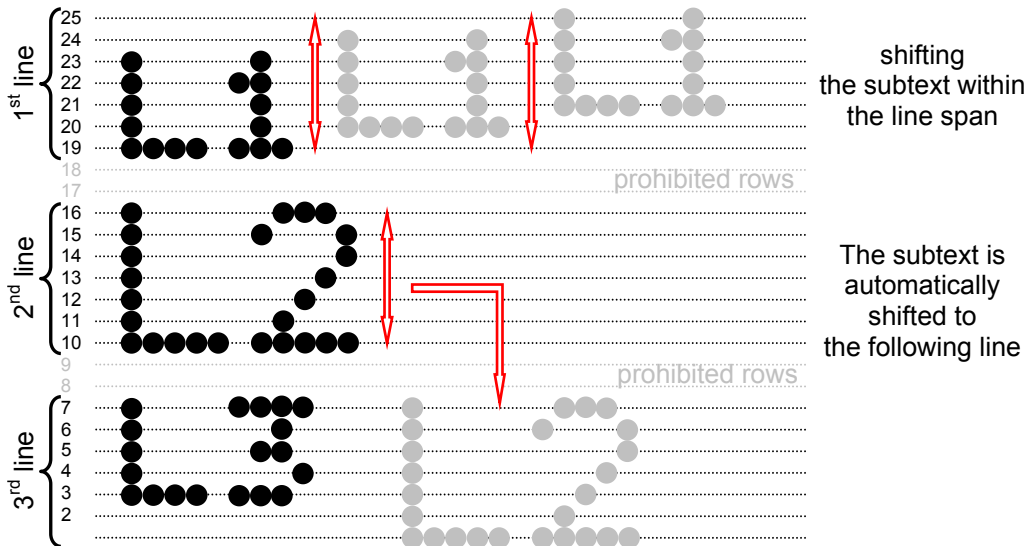

Fig. 4.7.1.2
- none of the prohibited rows (rows numbered 8, 9, 17, 18 – see **Fig. 4.7.1.2**) can be used.